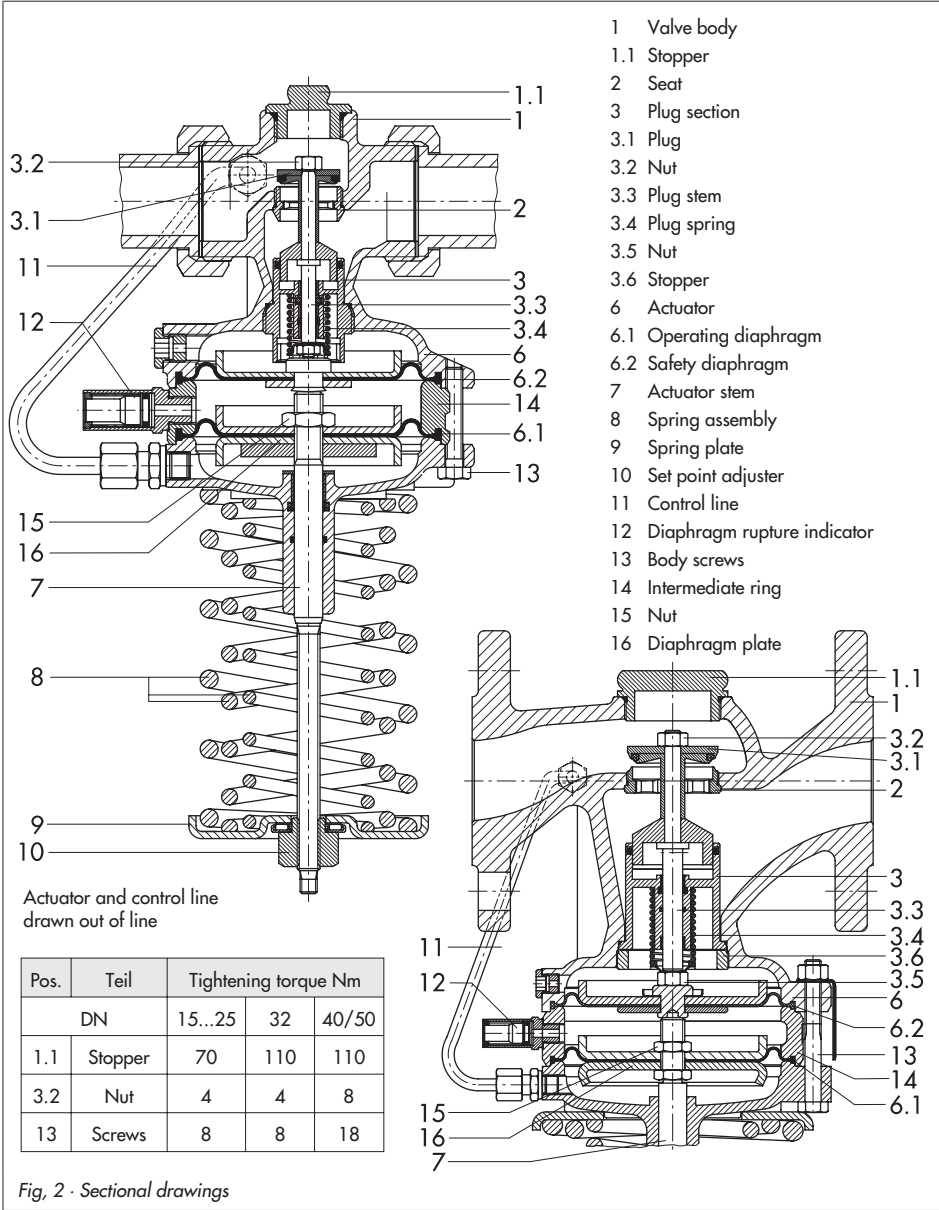

Fig. 2 · Sectional drawings
7. For reassembly, proceed in reverse order, observing the tightening torques specified in the table in Fig. 2.
3. Unscrew body screws (13) and remove actuator with intermediate ring (14).
4. Unscrew nut (15) from the actuator stem and remove diaphragm plate (16).
6. For reassembly, proceed in reverse order, observing the tightening torques specified in the table in Fig. 2.